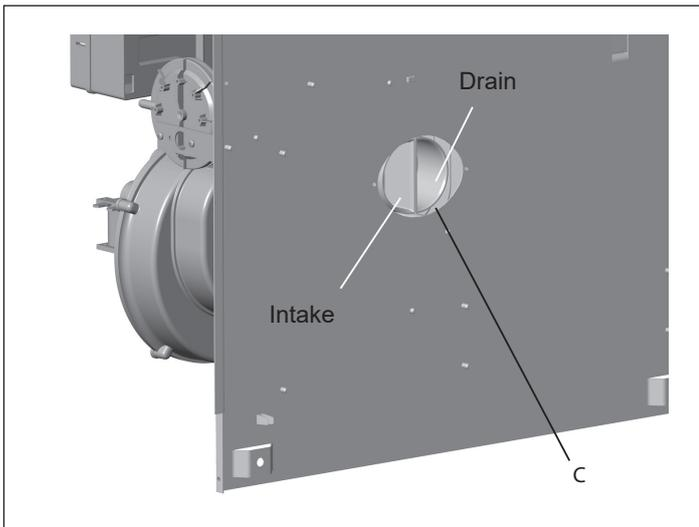
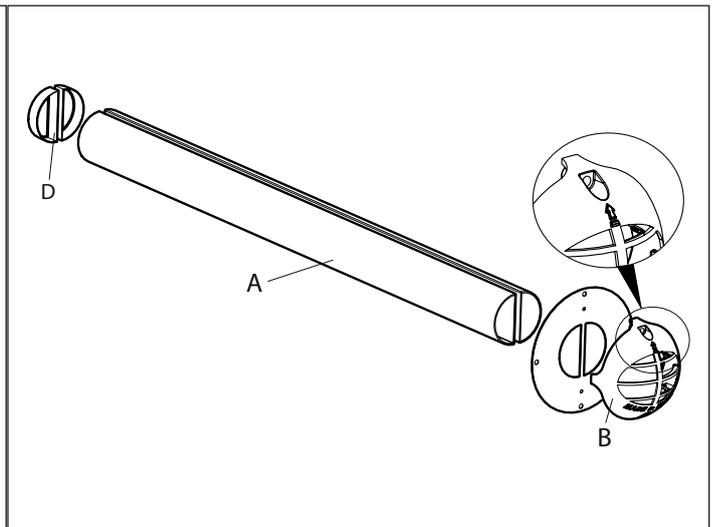
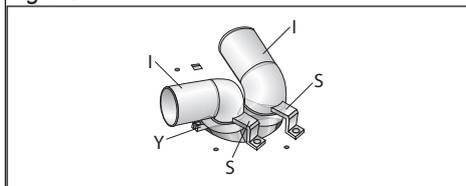

Fig. 9
Fig. 10
Fig. 16
With reference to Fig. 9, intake is on the LH side and vent on the RH side.
- Install seals **D** to pipes **A** and insert the latter, thus prepared, into stub pipes **C** of the equipment, using sliding agent to help insertion if necessary (see Fig. 9 and Fig. 10). Make sure that seals are properly in place and do not obstruct air or flue gas passage.
To identify the intake and exhaust refer to Fig. 9 and Fig. 10.
- Insert reduction **F** inside stub pipe **C** using sliding agent to help insertion (Fig. 9) by securing it with the (supplied) screw **Y** to equipment sleeve (Fig. 16).
- Elbows **I** must be fastened to the sleeve with the relevant brackets **S** supplied with the splitter KIT (Fig. 16).